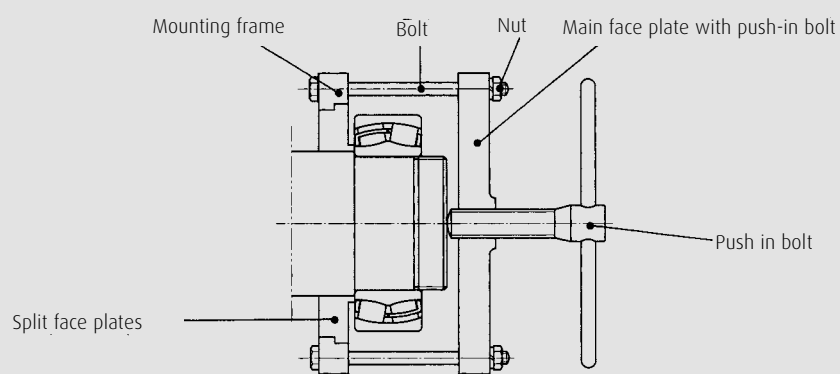
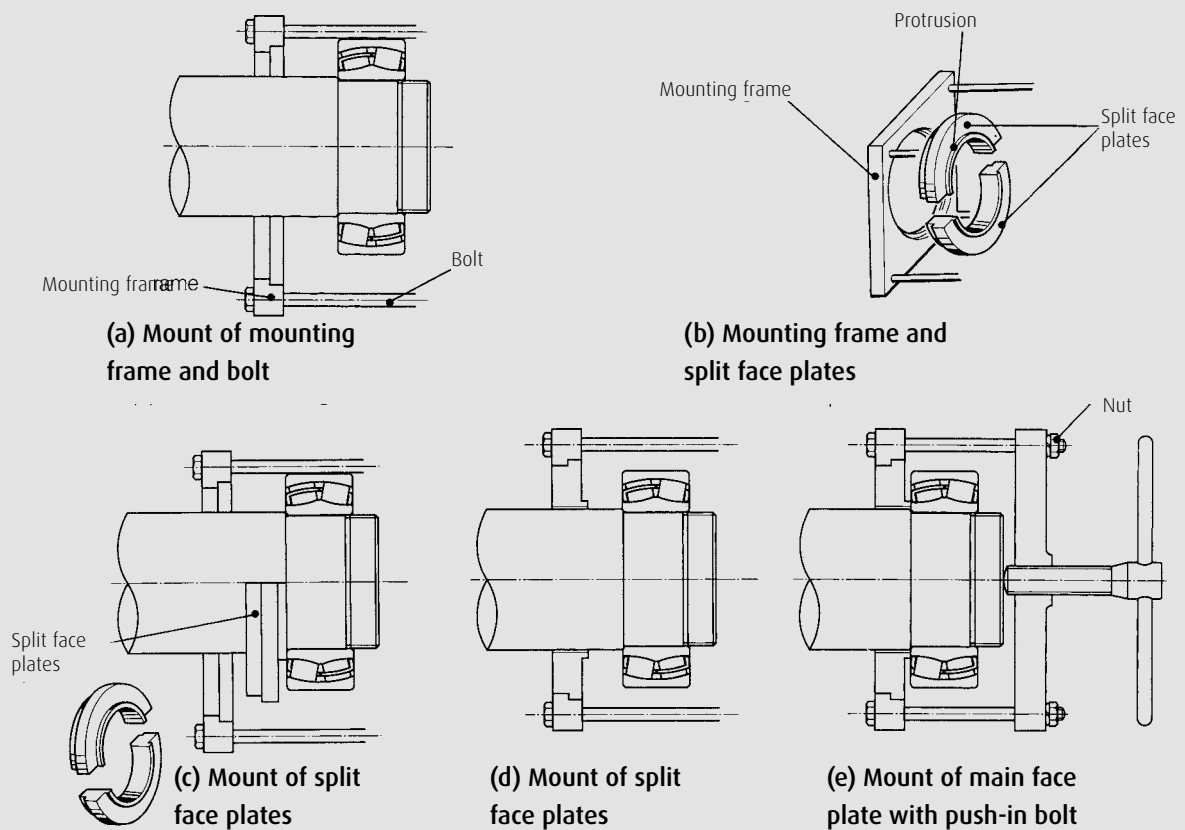

Fig. 7.1 Setting of special puller
Fig. 7.2 Special puller method
For the method using the commonly used special puller (**Fig. 7.1**) among the dismounting jigs and tools, refer to **Fig. 7.2**. The structure of the special puller consists of * main face plate with push-in bolt, split face plates, mounting frame and 4 bolts and nuts as shown in the said Figure.
(To do so, the diameter of the part on which split face plates are mounted shall be larger than the outside diameter of the bearing to be dismounted.) (**Fig. 7.2 (a)**)
2. Mount each split face plate between mounting frame and bearing. At first apply the end face of protruded part on bore of split face plates to the bearing inner ring end face, connect the shaft with 2 split face plates. (**Fig. 7.2 (b), (c)**)
3. Mount the split face plates on the mounting frame. (**Fig. 7.2 (d)**)
4. Pass 4 bolts through the main face plate and mount nuts. (**Fig. 7.2 (e)**)
5. Set the push-in bolt of main face plate to the center of shaft, and turn gently the 4 nuts so that the main face plate becomes parallel with the mounting frame. (**Fig. 7.2 (e)**)